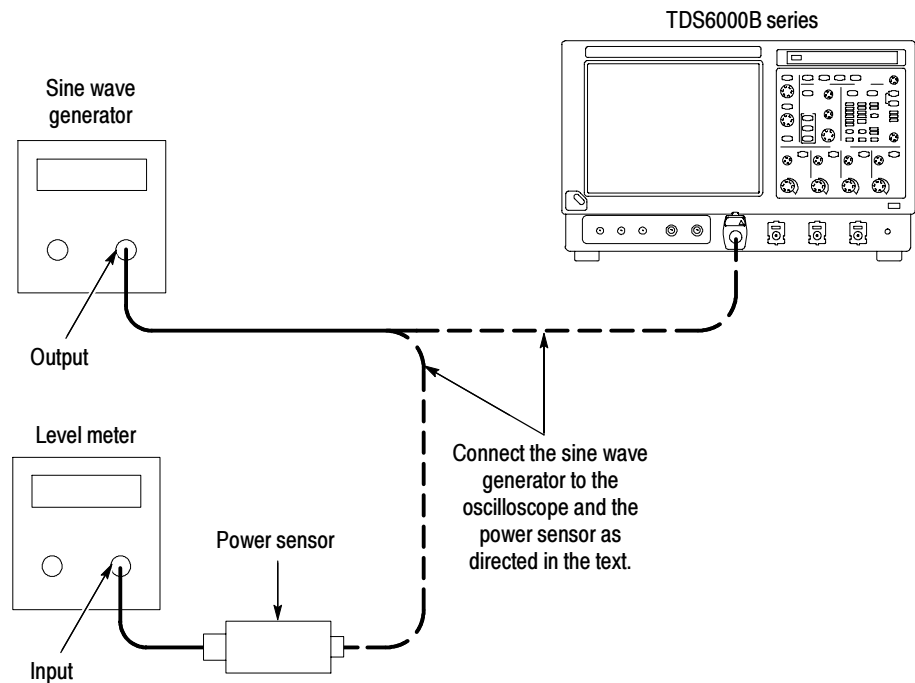

Figure 4-34: Equipment setup for maximum amplitude
1. Install the test hookup: Connect the equipment as shown in Figure 4-34 (start with the sine wave generator connected to the oscilloscope).**2. Set the Generator:**